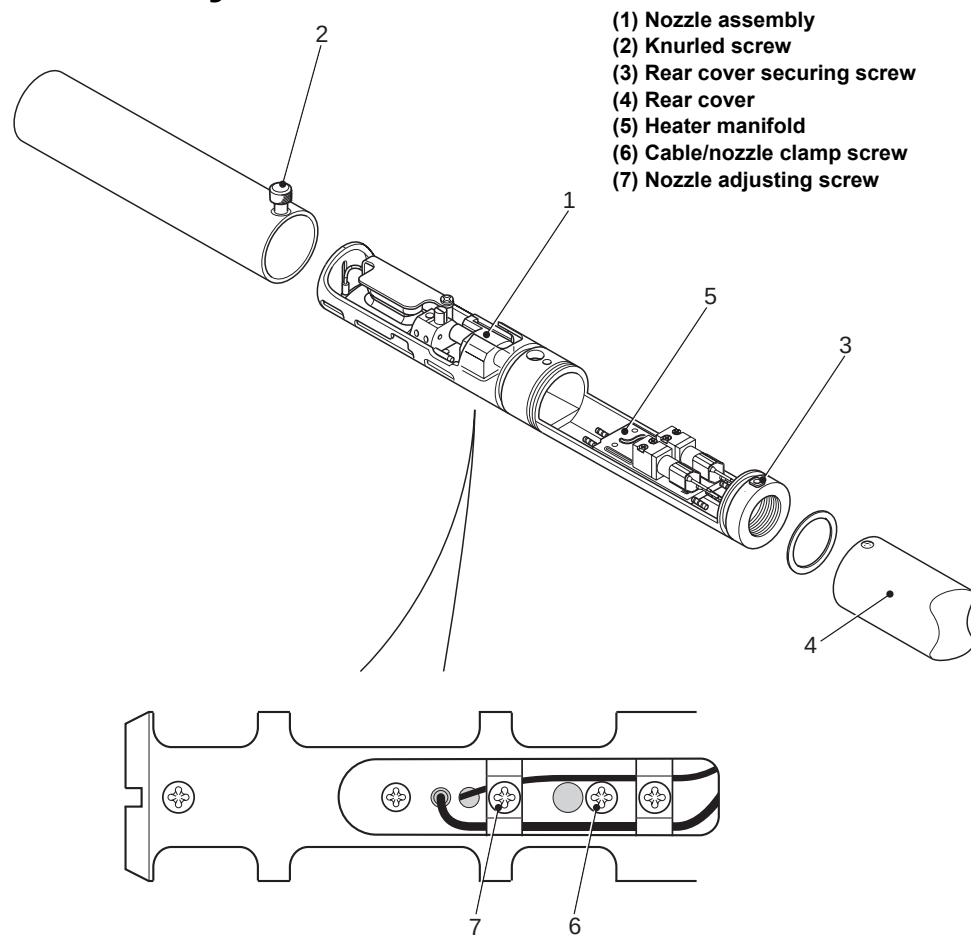

Figure 8-24. Printhead Nozzle Removal and Replacement
- 1 Slacken the knurled screw (Item 2 in Figure 8-24) and slide the front cover off the printhead.
- 2 Remove and retain the two rear cover securing screws (3) and slide the rear cover (4) off the printhead.
- 4 Disconnect the ink feed and return tubes from the heater manifold (5).
- 5 Remove and retain the cable/nozzle clamp screw (6) and the nozzle adjusting screw (7).